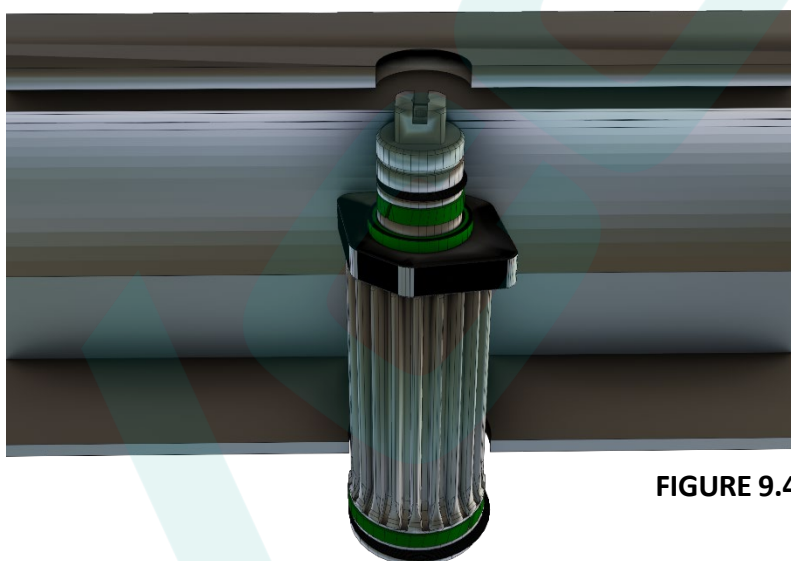
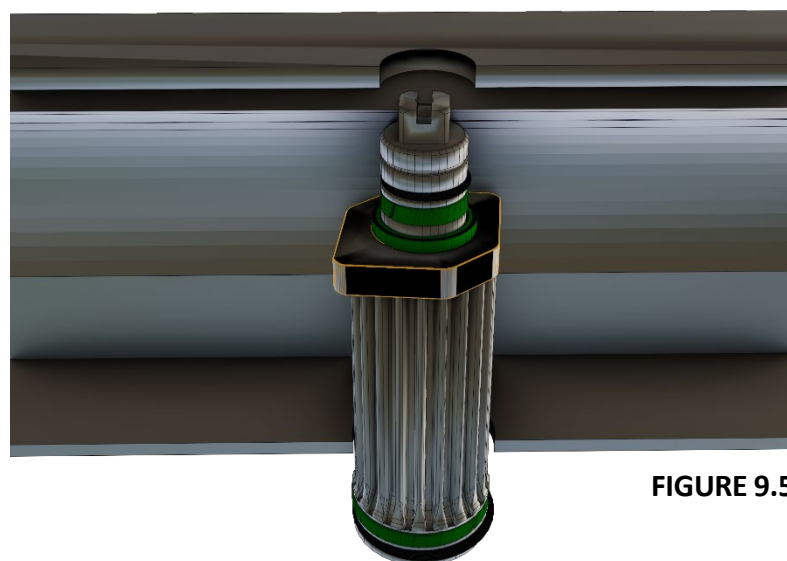

FIGURE 9.4
FIGURE 9.5
4. Next, insert the top half of the pinion into the bottom of the actuator. Orient the cam on top of the pinion according to your desired operating direction, as shown in Figure 9.4.
The illustrations above depict the standard orientation of the cam/pinion in the actuator fail position. In Figure 9.4, the cam configuration is intended for fail-closed applications, while in Figure 9.5, the configuration is intended for fail-open applications. Please note that the cutaway view assumes that the stops and air ports of the actuator are facing the viewer.